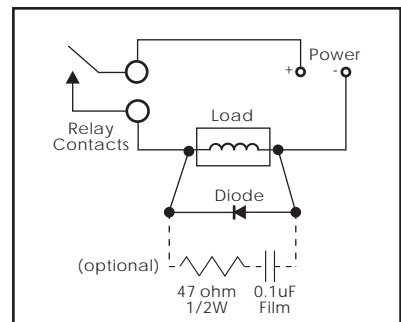

Figure 2: DC Inductive Loads
When switching inductive loads, maximum relay life and transient EMI suppression is achieved using external protection (see Figures 2 and 3). Place all protection devices directly across the load and minimize all lead lengths. For AC inductive loads, place a properly-rated MOV across the load in parallel with a series RC snubber. Use a 0.01 to
*Note: External relay contact protection is required for use with inductive loads (see Figures 2 & 3).*